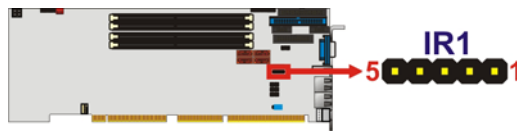

Figure 3-11: IrDA Interface Connector Location
- CN Location:** See Figure 3-11